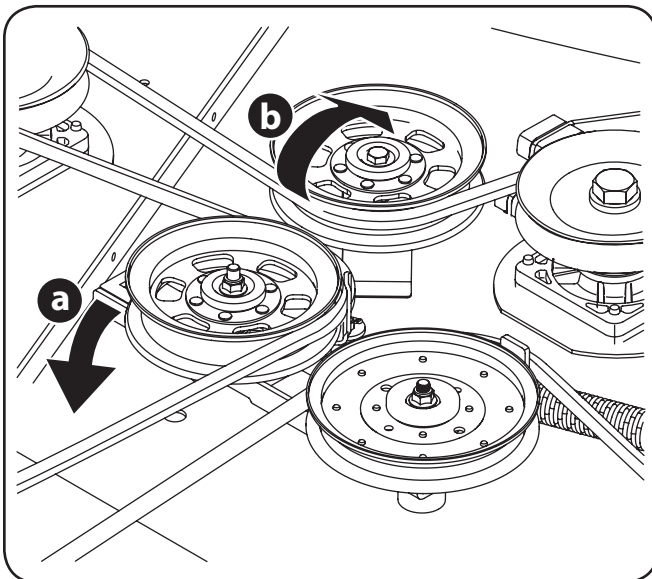

Figure 7-4
- b. Working from the middle of the tractor, pivot the idler bracket and movable idler pulley rearward away from the backside of the 'V' belt (a) just far enough to lift the belt up and over the idler pulley (b). See Figure 7-4.